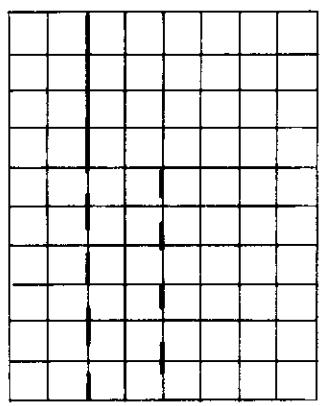

Figure 7b. Mixed Sweep Display
4. Press MIXED **49** and notice the first portion of the display is at the main TIME/DIV **34** sweep rate and the second portion is at the delayed TIME/DIV **35** sweep rate (see figure 7b). You can vary the transition point from main sweep to delayed sweep by adjusting the DELAY **41** control.